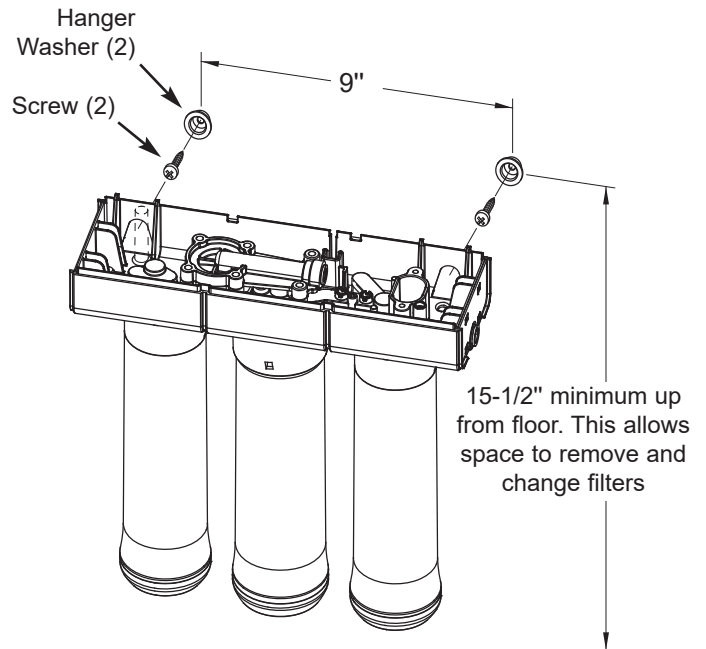

FIG. 12
See Fig 12. The hanger washers allow you to lift the filter assembly from the washers without any hardware removal. When planning your installation, you need to leave room for changing filters.
2. Locate mounting slots on back inside of the assembly. See Fig 12.
3. Hold the assembly up to the wall surface and mark locations for the hanger washers. See Fig 12. Mount the unit high enough to allow room to change filters without taking the unit off of the wall.